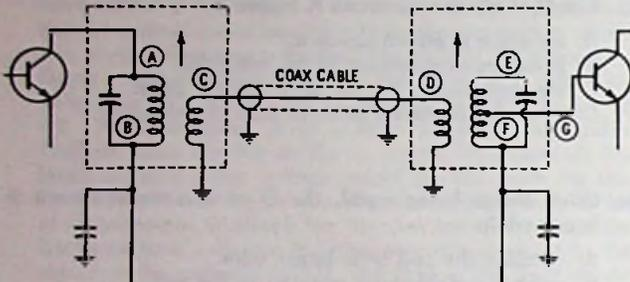

Fig. 14-21. Circuit for Questions 27, 28, and 29.
28. In Fig. 14-21, the low impedance circuits are between
- A. (A) and (B), (E) and (F)
- B. (C) and ground, (D) and ground, (G) and (F)
- C. (C) and (F) only.
- D. (C) and ground, (D) and ground, only.
29. The circuit in Fig. 14-21 is more likely to be used when the signal